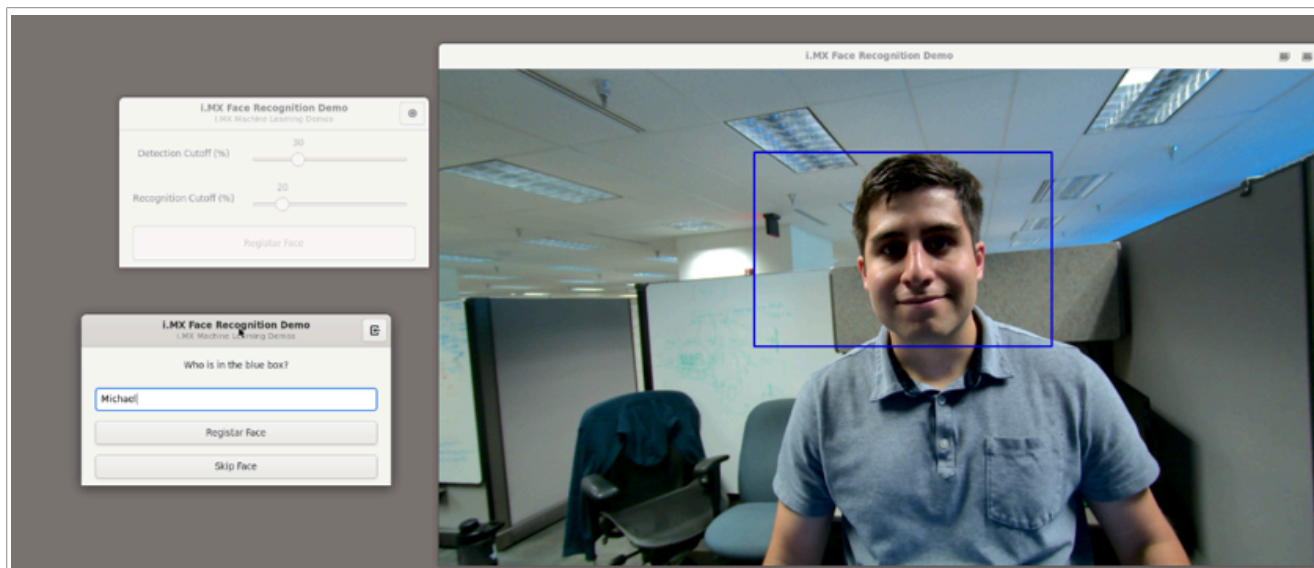

Figure 17. Face recognition for a registered face
- For all faces in the frame, a window prompt appears, as shown in Figure 17. Type the name of the face that appears in the blue box in the camera view. When done, click the **Register Face** button. If a face must not be registered, click the **Skip Face** button.